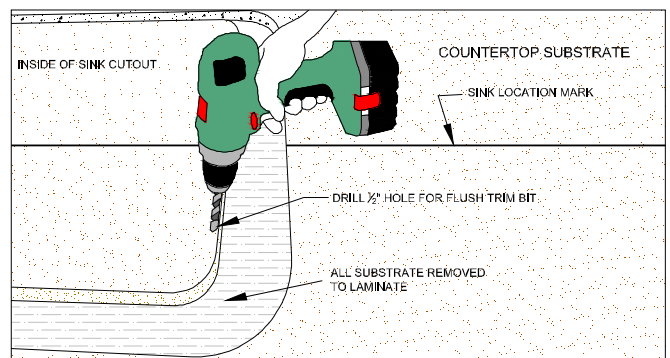

Figure 27D
- Drill a  $\frac{1}{2}$ " or larger pilot hole through the substrate at the inside of the sink cutout to insert a laminate trim bit to cutout center piece. (FIG. 27D)